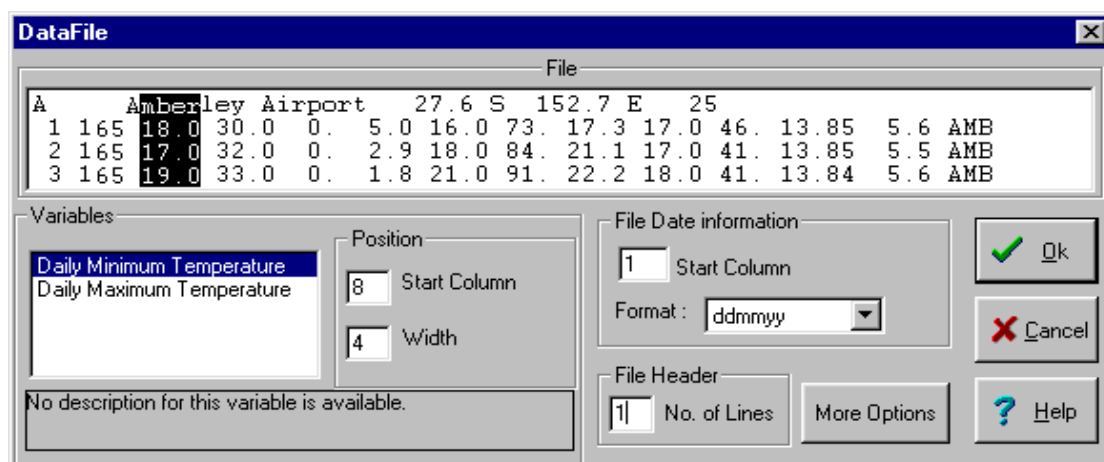

Figure 3.6 DataFile window with minimum temperature, file date format and file header settings shown.
4. Select '**Format**' button to produce the '**Datafile**' window (fig 3.6).
The 'Data File' window (Figure 3.6) allows the user to inform DYMEX of the format of the loaded meteorological database so that data can be read into the model. For this tutorial the 'More Options' button may not be required. If pressed, additional operations become available to the user. Once opened, the 'More Options' window remains open until the user returns to the 'Model' window.